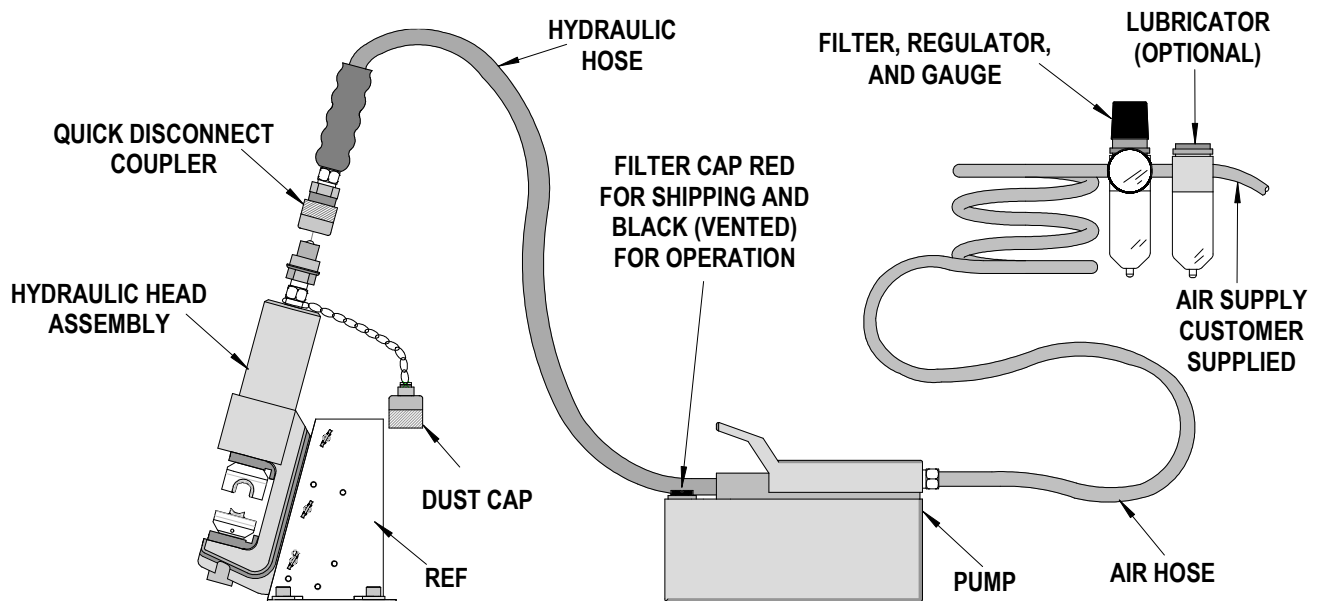

Figure 2-2
3. Next, install the fittings to the filter, regulator, and gauge unit. The air supply should be 20 CFM (550 L/M) and 100 PSI (6.9 Bars) to obtain the rated hydraulic output. Air pressure should be regulated to a maximum of 125 PSI (8.6 Bars). See Figure 2-2.
2. Connect the quick disconnect coupler onto the cylinder inlet on the crimp head. See figure 2-2.